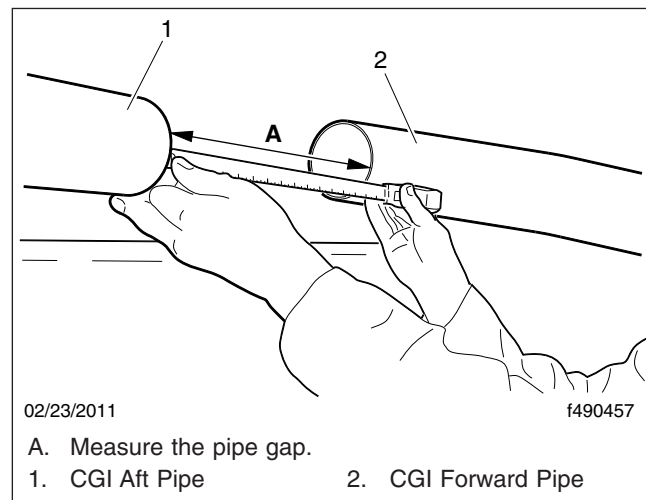

Fig. 9, Measuring the Pipe Gap (typical)
7. Once the pipes are aligned, measure the pipe gap between the CGI pipes and record the distance. See **Fig. 9**, Ref. A.